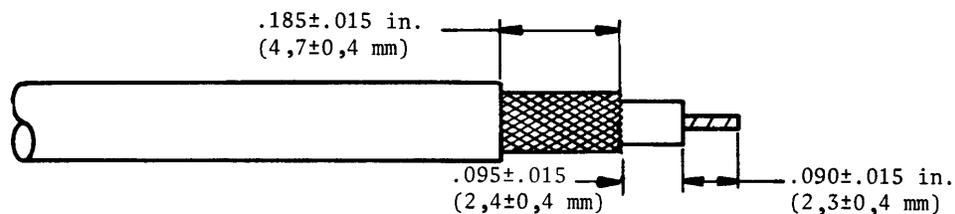

FIGURE 3
- 5.1.8.1 Strip the cable per the dimensions shown in Figure 3. Then flare the braid to expose the inner conductor dielectric.